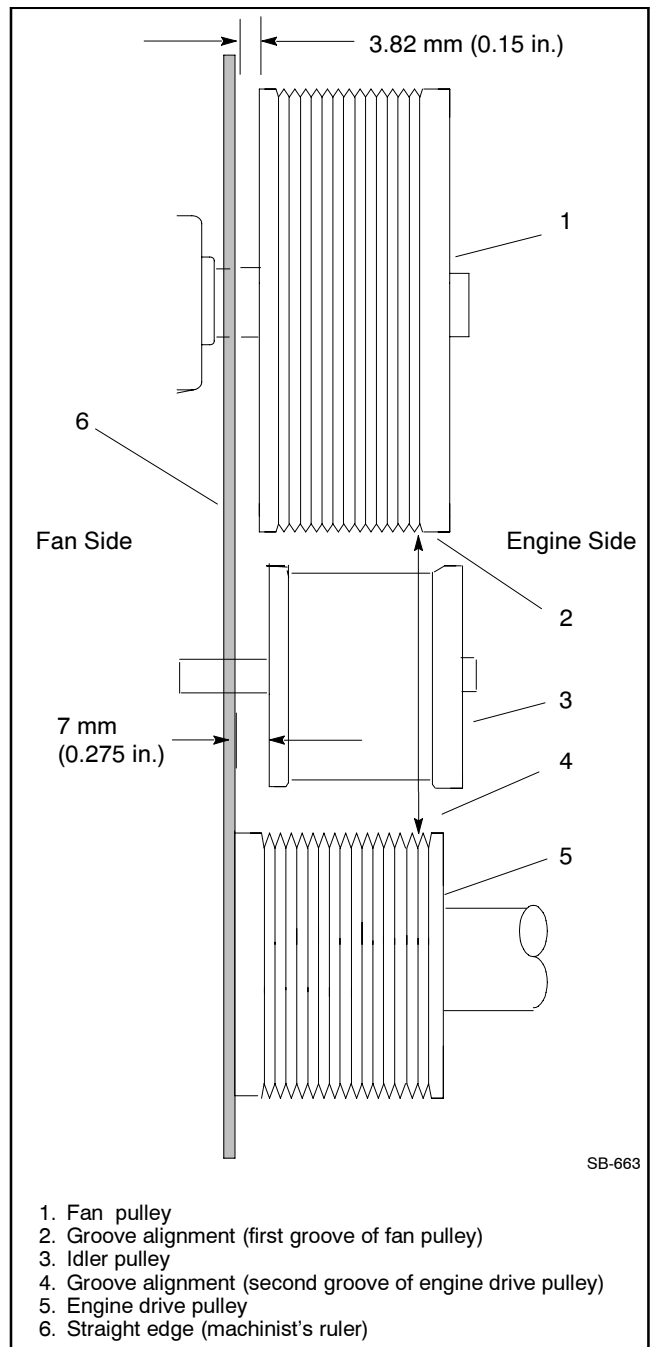

Figure 3-25 Pulley Alignment, Side View
- a. Check the alignment of the fan pulley with the engine drive pulley by placing a straight edge (machinist's ruler) on the engine drive pulley left side as viewed from the radiator end. The second groove of the engine drive pulley must align with first groove of the fan pulley. See Figure 3-25 for the straight edge position and for clearance specifications.
- c. Install the poly-V belt. Align the poly-V belt with the second groove on the engine drive pulley and the first groove on the fan pulley from the fan side. See Figure 3-25.